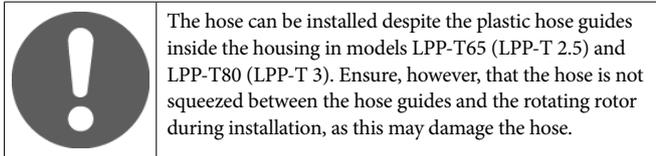

Figure 20.
5. Then install the halves of the split bushing behind the rubber flange of the hose so that the sealing gills are left between the halves (refer to *Figure 20*).